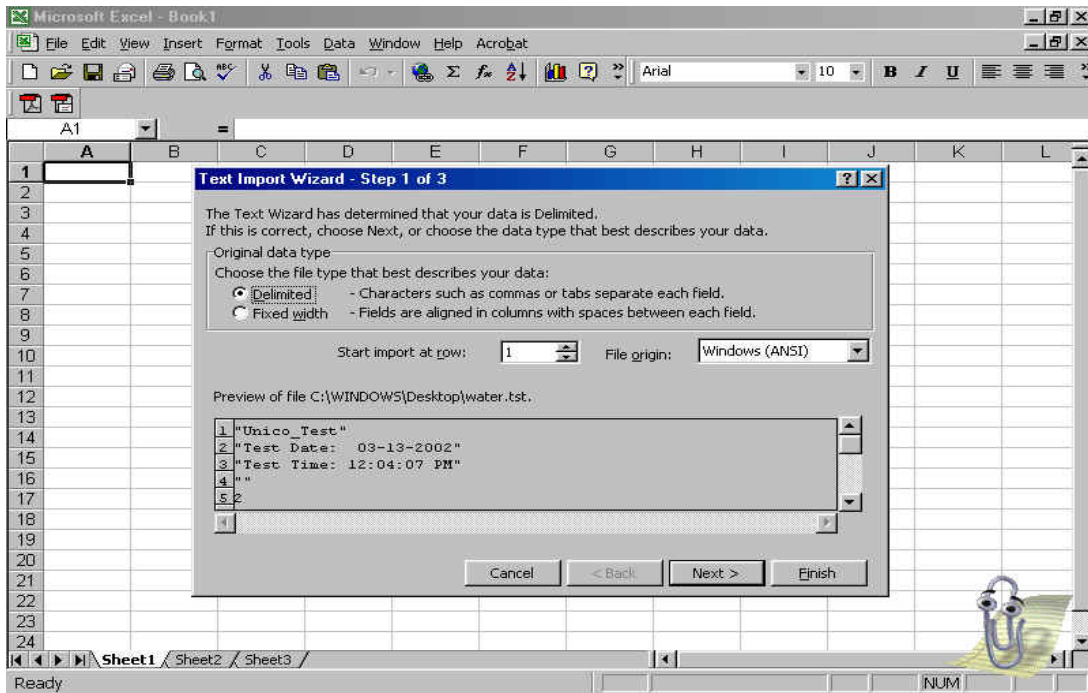

Figure-41 Excel Text Import Wizard I
- Step 3: After the Excel Text Import Wizard appears, select **Delimited**, select the row from which you want the import to start, and click on the **Next** button as shown in Figure-41.